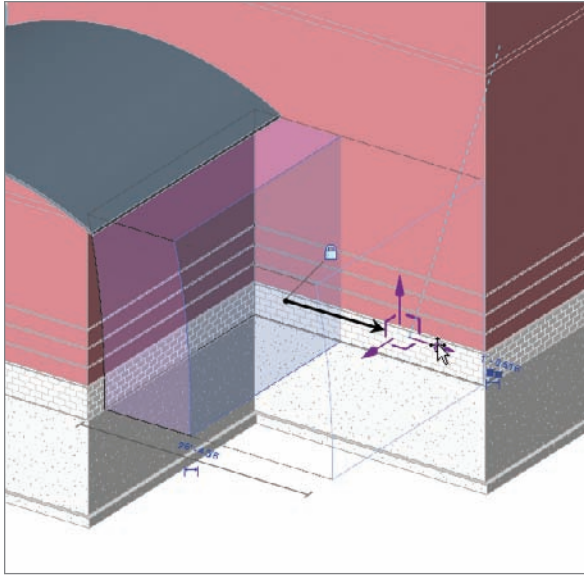

FIGURE 16.45 Dragging the extrusion to the right
11. Pick (left-click) and drag the right-facing arrow so that the mass is in alignment with the corner of the building, as shown in Figure 16.45.